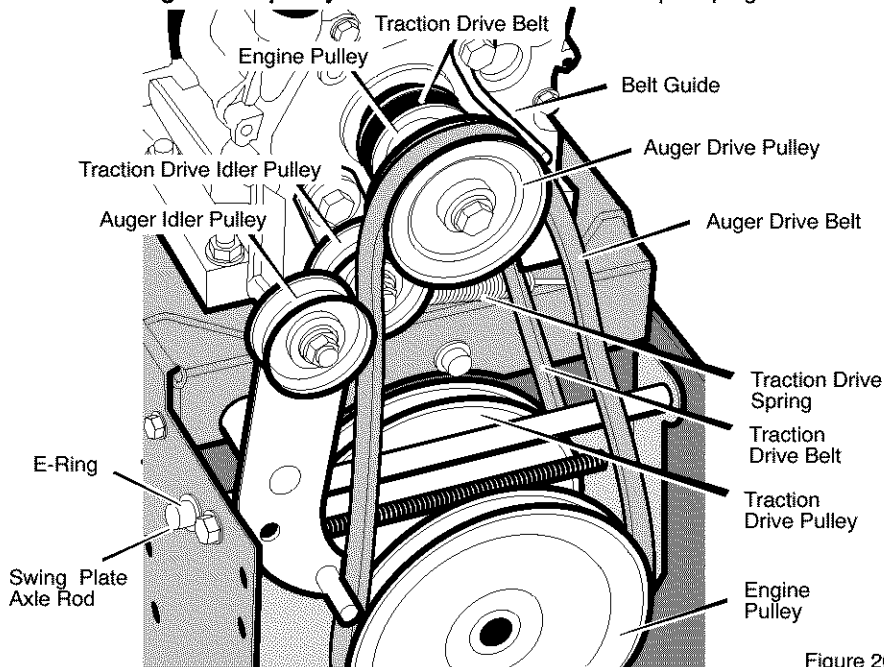

Figure 20
3. Loosen nut on auger idler pulley and move auger idler pulley towards belt about 1/8 inch (3 mm) (see Figure 20).
- Loosen the **belt guide**. Pull the **belt guide** away from the **auger drive pulley** (see Figure 20).
3. Remove the **e-ring** from one end of the **swing plate axle rod**. Remove the **swing plate axle rod** to allow the swing plate to pivot forward (see Figure 20).